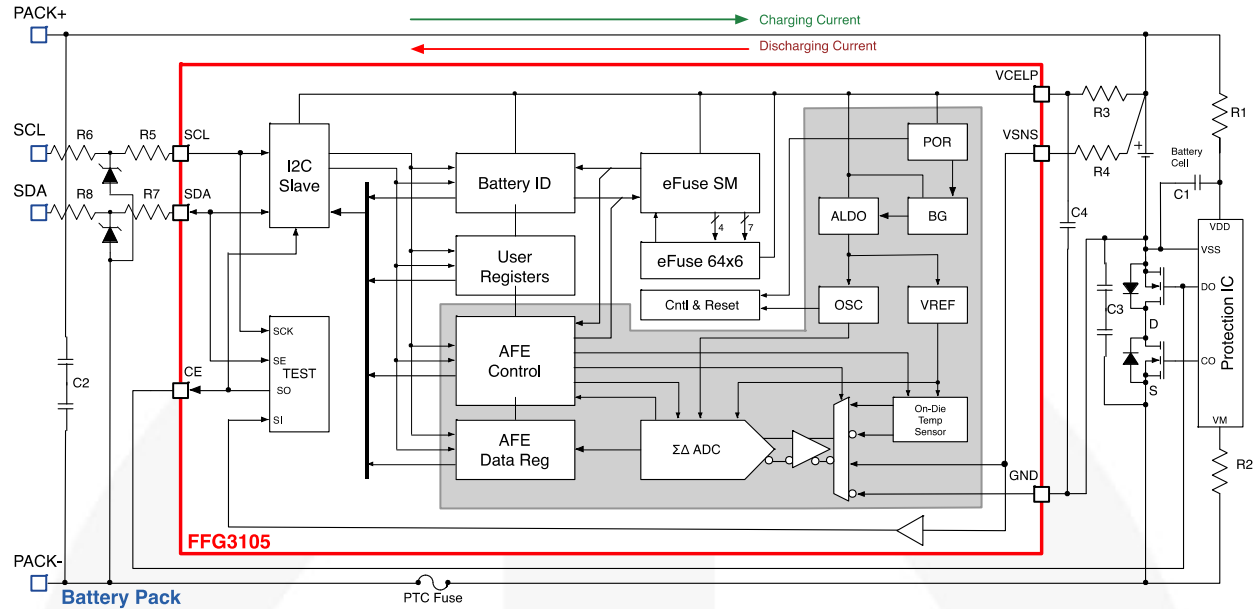

Figure 1. FFG3105 Block Diagram and Battery Pack
2. C2 should consist of two capacitors in series as shown in Figure 1 in the event one of the capacitors were to short circuit.